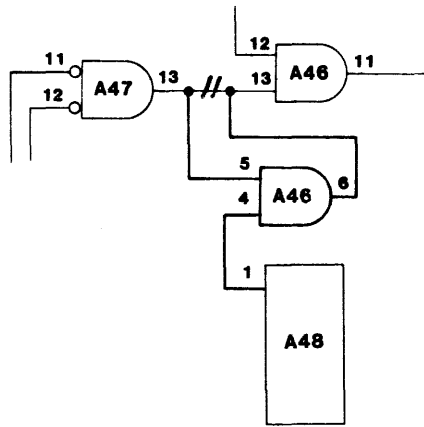

Figure 7-3 Revised Schematic, Page 3 of 5
5. When you have completed the modification, change the schematic as shown in Figure 7-3.